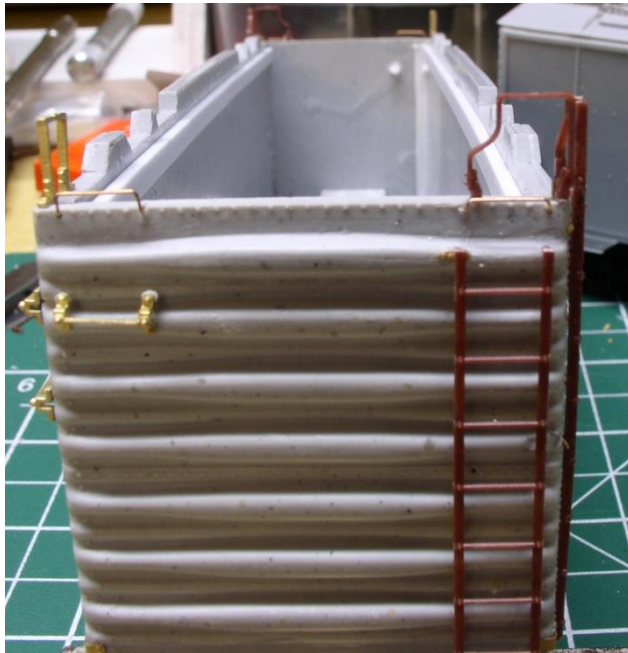
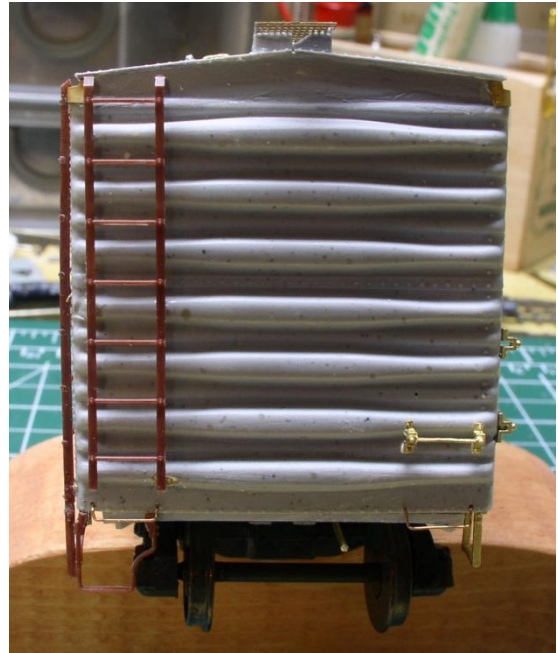

Figure BD12g
Figure BD12h
17. Drill a 0.020" hole in the bottom of the left corner post. Drill a second hole 16" to the right of that hole. Glue the rods protruding from the steps into the holes. See Figure BD12g and Figure BD12h. Series 6 shown but it's the same general layout for Series 4.